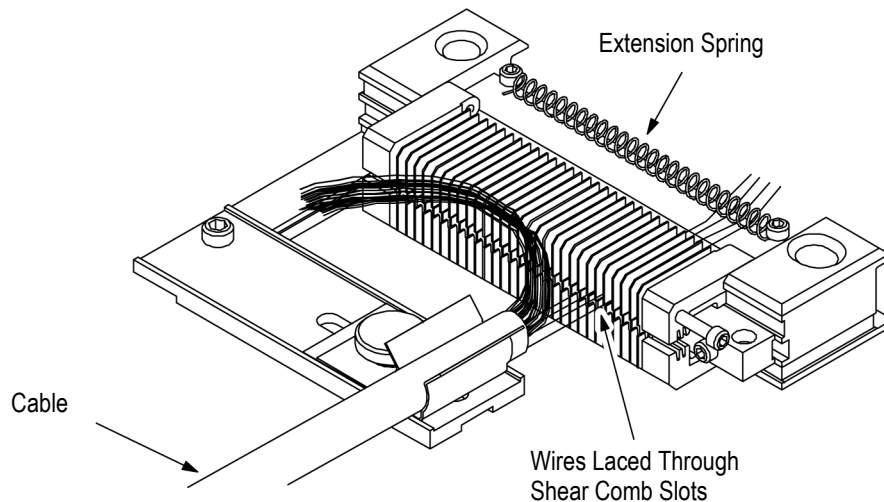

Figure 7
4. Following the predetermined color code, place each wire through the appropriate shear comb slot and into the extension spring, as shown in Figure 7.